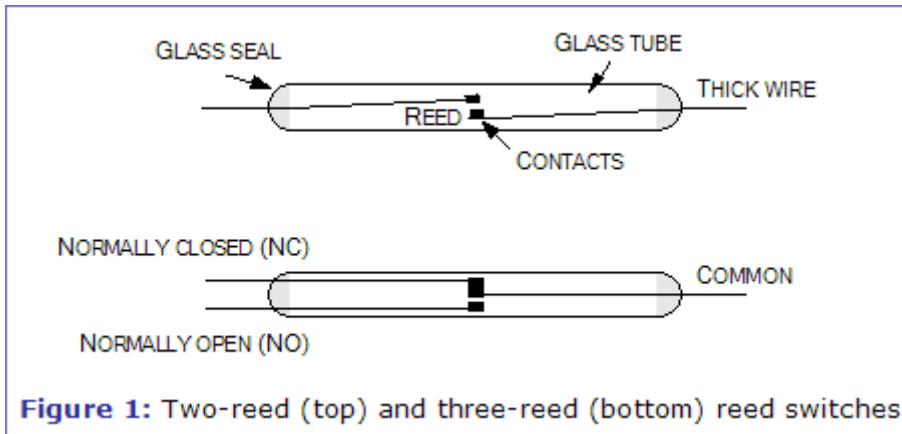

Figure 1: Two-reed (top) and three-reed (bottom) reed switches
A reed switch consists of two or three springy metal reeds having plated, long-life contacts at the tips and encapsulated in a sealed glass tube. The two-reed type has normally open (NO) contacts which close when operated, and the three-reed type is a changeover, i.e. it has a pair of normally open (NO) and a pair of normally closed (NC) contacts. When the switch is operated, both these pairs change to the opposite state. Both types are shown in figure 1.